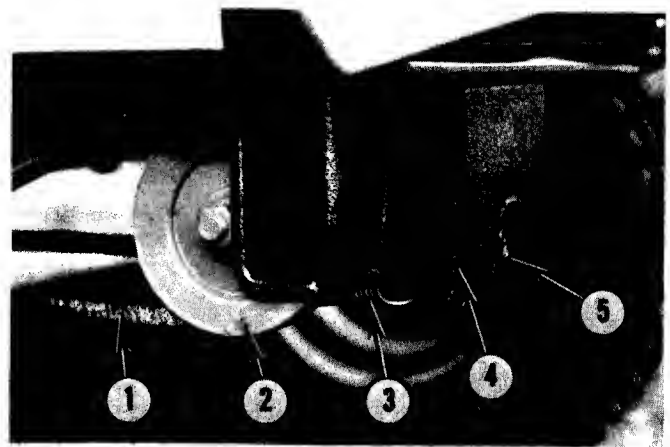

FIG. 10.4--MOWER "MULE DRIVE"
1. Remove mule drive cover by removing two bolts, see Fig. 10.4.
5. Remove mule drive cover by removing 2 bolts, see Fig. 10.4.